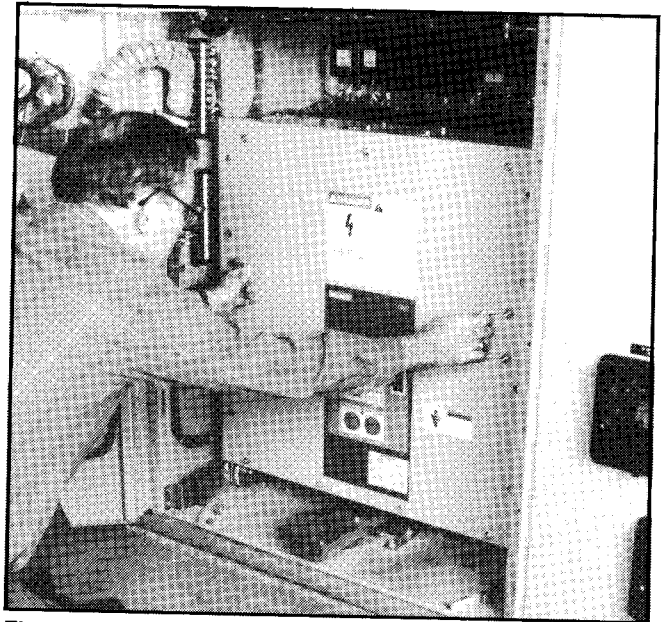

Figure 4. Removal of Circuit Breaker.
4. The circuit breaker is then free to be rolled out using the handles as shown in **Figure 4**. The wheels of the circuit breaker are virtually at floor level, and one person can easily handle the unit.